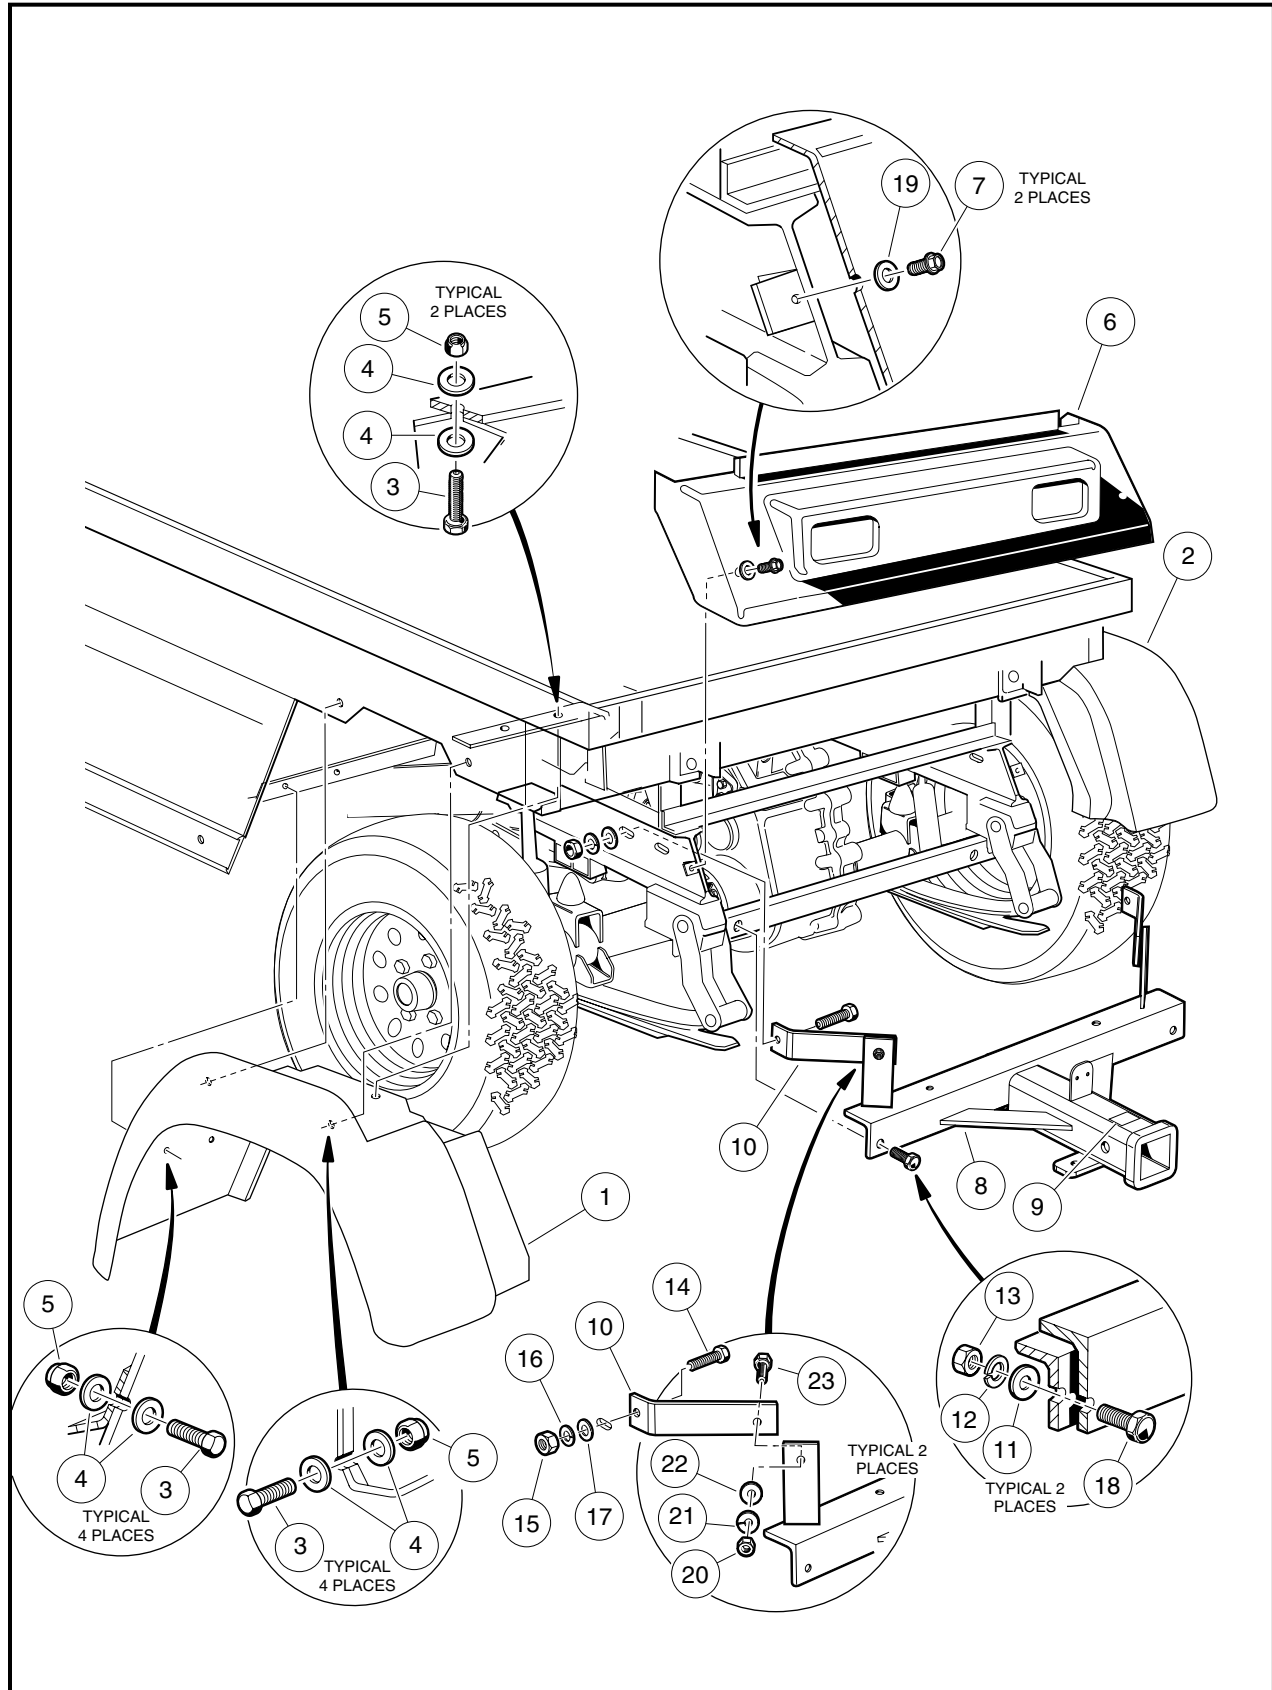

Figure 4-5 Rear Fender, Tailskirt, and Hitch – Vehicle with MC012C-AS00 Transaxle
- 1.1. Remove one 1/4-20 nylon lock nut (5), fender washers (4) and 1/4-20 x 1-inch hex-head bolt (3) from the top, and underneath, of fender (1) (**Figure 4-5, Page 4-16**).
- 1.1. Reverse removal procedure to install rear fender. Tighten all bolts securing the fender to the vehicle to 35 in-lb (4.0 N·m) (**Figure 4-5, Page 4-16**). **See following NOTE.**
- 1.1. Remove the two thread-forming screws (7) and flat washers (19) from the tailskirt (6) and slide tailskirt from under the back edge of the rear of the body and vehicle frame (**Figure 4-5, Page 4-16**).
- 1.1. Insert upper edge of tailskirt (6) under, and in front of, back edge of rear body (**Figure 4-5, Page 4-16**).
- 1.2. Remove two 5/16-18 hex nuts (20), lock washers (21), flat washers (22) and 5/16-18 x 1-inch bolts (23) from hitch brace (10) and hitch frame (8) (**Figure 4-5, Page 4-16**).
- 1.3. Remove two 5/16-18 hex nuts (13), lock washers (12), flat washers (11) and 5/16-18 x 1-inch bolts (18) where the hitch frame (8) mounts to the vehicle frame (**Figure 4-5, Page 4-16**).
- 1.1. Reverse removal procedures to install hitch frame (8) to vehicle frame, then install the hitch frame (8) to the hitch braces (10). Tighten all hardware to 15 ft-lb (20.3 N·m) (**Figure 4-5, Page 4-16**).